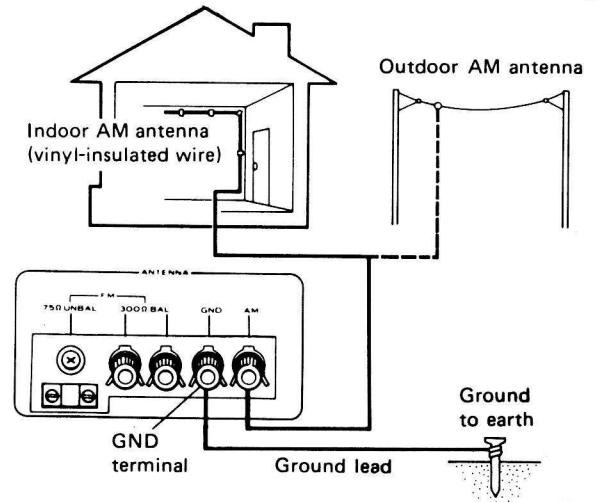

Fig. 7
- If you still cannot obtain good reception even by moving the AM bar antenna, erect an indoor AM antenna with a vinyl-insulated wire (about 5–6 meters long). As shown in Fig. 7, connect the lead wire to the AM antenna terminal, and tape it to the wall or ceiling.
- If you live in an area where the reception is poor even if you erect an indoor AM antenna, use a tree to erect an outdoor AM antenna with a vinyl-insulated wire (Fig. 7).
As shown in Fig. 7, connect a ground lead to the ground terminal on the receiver for maximum safety and noise reduction, never make this connection near gas pipes and other potentially dangerous locations.